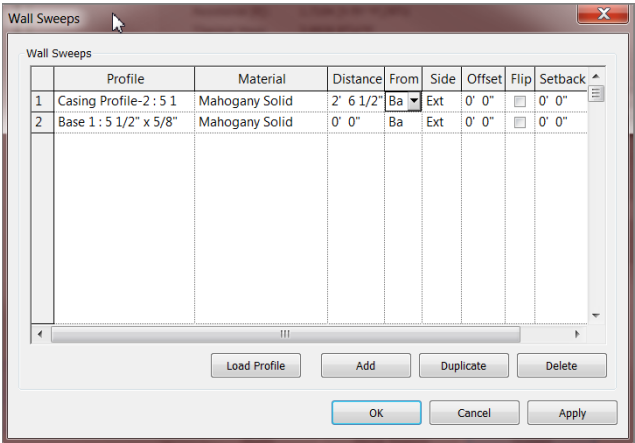

FIGURE 16.10: Configuring the two sweeps
20. In the Wall Sweeps dialog, click the Add button, as shown in Figure 16.10.
26. Set Distance 2'–6 1/2" (775mm) from the base (see Figure 16.10).